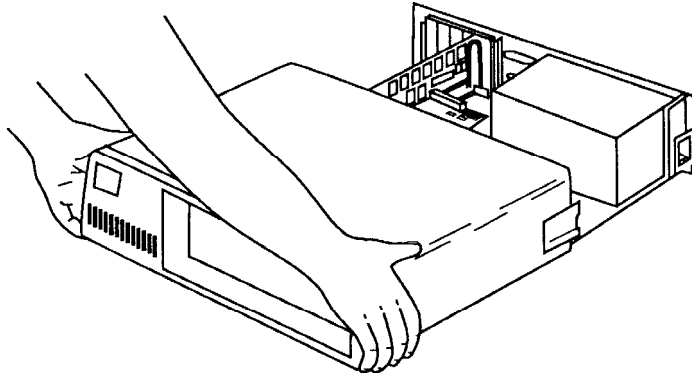

Figure 2
4. Gently slide the cover of the computer toward the front until the inside circuitry is exposed (see Figure 2 below). It is not necessary to totally remove the cover from the chassis, although doing so makes installation of the Deluxe Option Board a little easier.